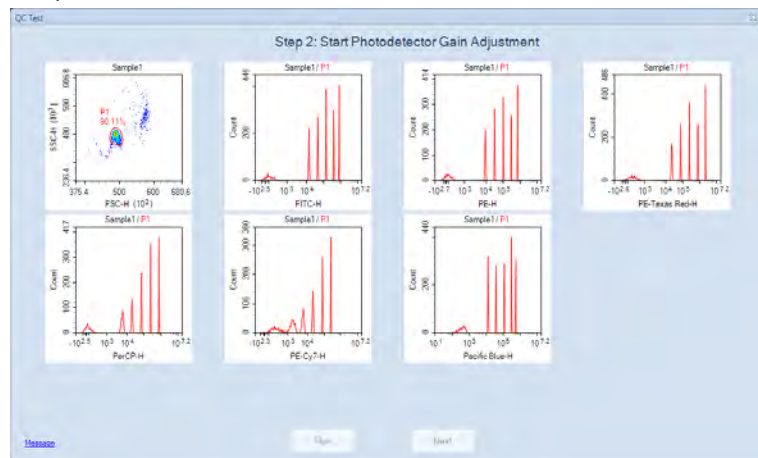
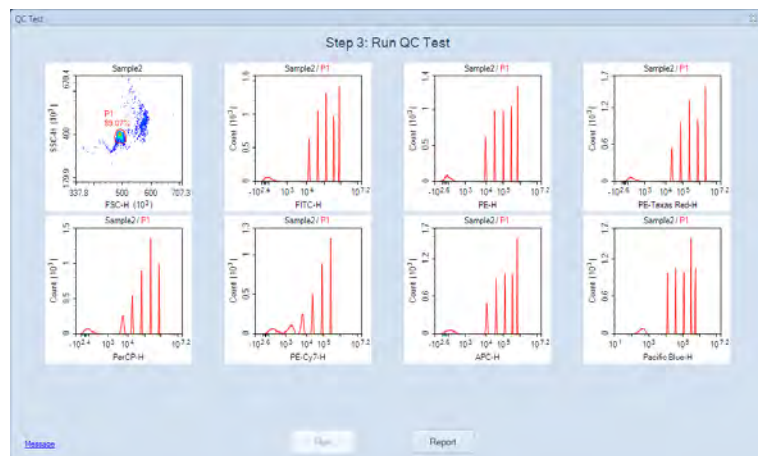

Figure 2-11 Automatic Photodetector Gain Adjustment
Figure 2-12 Automatic QC Test
- 11** Ensure all the test information is correct and the sample tube is properly installed on the tube holder. Click *Run* to start (Figure 2-11). The software will automatically adjust the photodetector gain by running the QC Particles. When the adjustment is completed, the software will automatically perform the QC Test (Figure 2-12). Click *Report* when the QC test is completed.